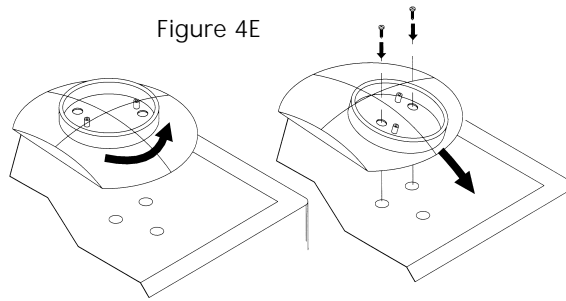

Figure 4E
Step 6 Using two of the screws that were removed in Step 2, attach the adapter plate assembly to the monitor. To accomplish this, it will be necessary to turn the adapter plate fully counter-clockwise while sliding it forward as shown in Figure 4E. This will allow you to install the two rear screws.